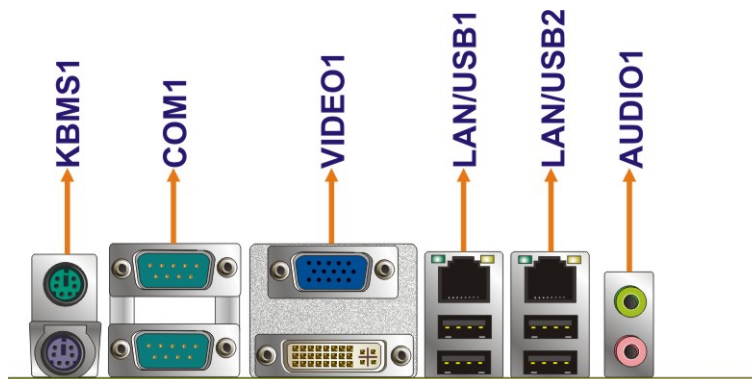

Figure 4-20: KINO-945GSE External Peripheral Interface Connector
Figure 4-20 shows the KINO-945GSE external peripheral interface connector (EPIC) panel. The KINO-945GSE EPIC panel consists of the following:
CN Location: See Figure 4-20
- CN Location:** See Figure 4-20
CN Location: See Figure 4-20 (see 2)
CN Location:	See Figure 4-20